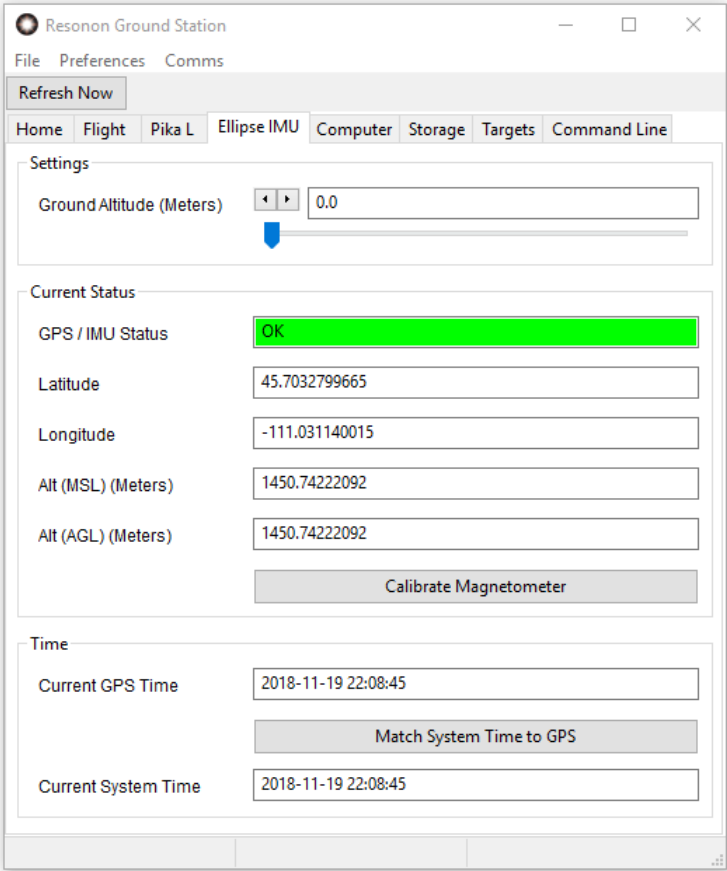
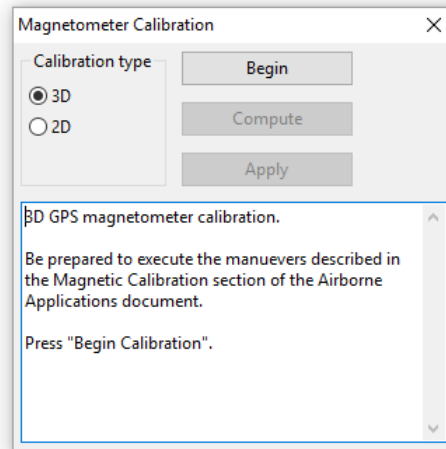

Fig. 3.11: The GPS/IMU Tab
Fig. 3.12: Ellipse Magnetometer Calibration Window
GPS/IMU: shows the status of the GPS/IMU unit. This field is mirrored on the **GPS/IMU** tab (Fig. 3.11) and on the LCD display. See the GPS/IMU Tab discussion for more information.
The **GPS/IMU Tab** (Fig. 3.11) shows the information relevant to the GPS/IMU system and serves as a check to the proper operation of the GPS/IMU system. The tab title reflects the actual imager type in use, commonly the Ellipse.
1. To perform a calibration, first press the Calibrate Magnetometer button on the GPS/IMU tab (Fig. 3.11). The Ellipse magnetometer calibration window appears (Fig. 3.12). Choose a 2D or 3D calibration.